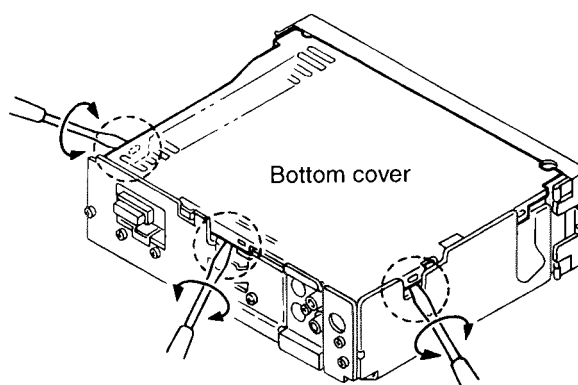

Fig.4
■ Removing the bottom cover (See Fig.4)